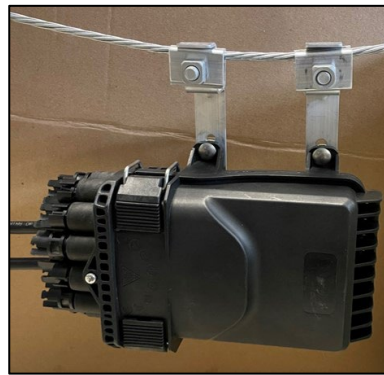

Figure 5
3. Tighten the clamps around the strand to suspend the unit (Figure 5).